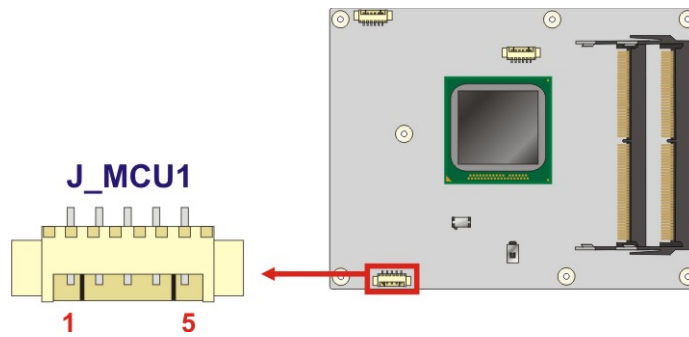

Figure 3-6: PIC Programming Connector Location
- CN Location:** See **Figure 3-6**